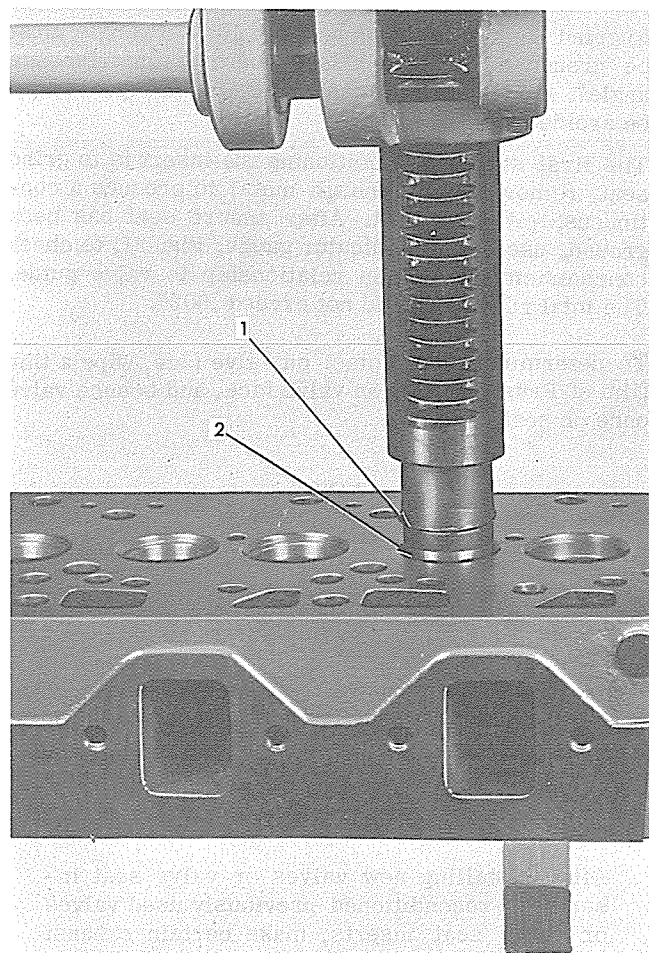

Fig. 18 — Installing Valve Seat Insert
- d. Using a valve seat insert installing tool, similar to the one shown in Fig. 18, drive or press insert down tightly into counterbore. This operation must be done quickly while insert is cold.